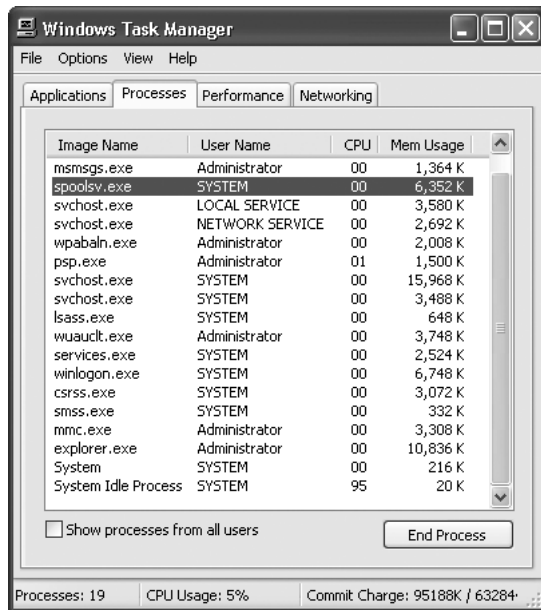

Figure 15-8 The Windows Task Manager, Processes tab
- Check the status and CPU usage of the spoolsv.exe process using the Task Manager (see Figure 15-8). If the spooler seems to be stalled—it will either be obtaining no CPU time at all or consuming most of the CPU—you should stop and restart the spooler service.